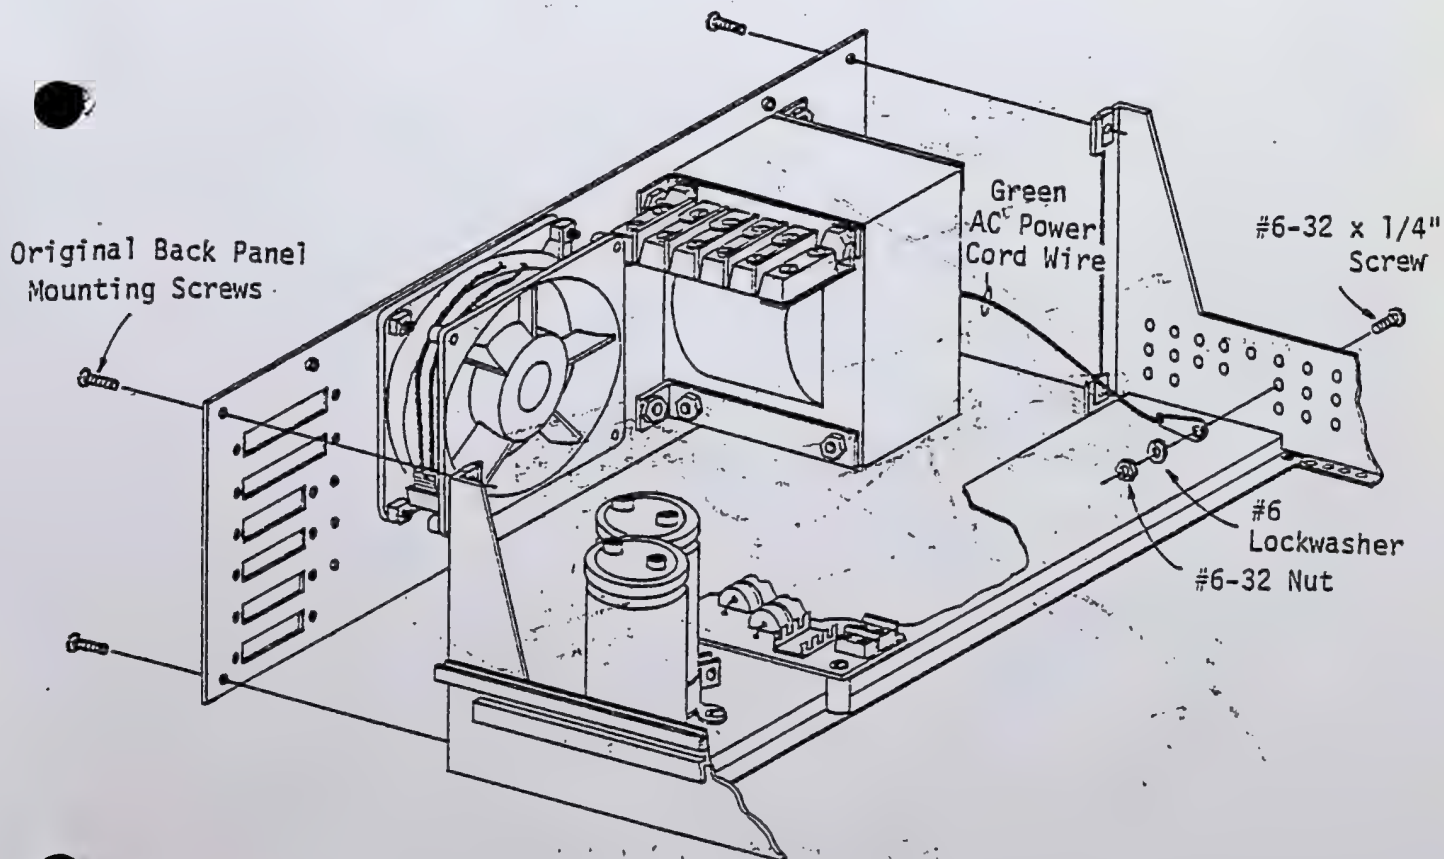

Figure 5-60. Back Panel Mounting
(Figure 5-60)
- OK ✓ 1. Mount the back panel to the mainframe as shown in Figure 5-60 using the original back panel mounting screws. (Tighten these screws down until they are just firm.)